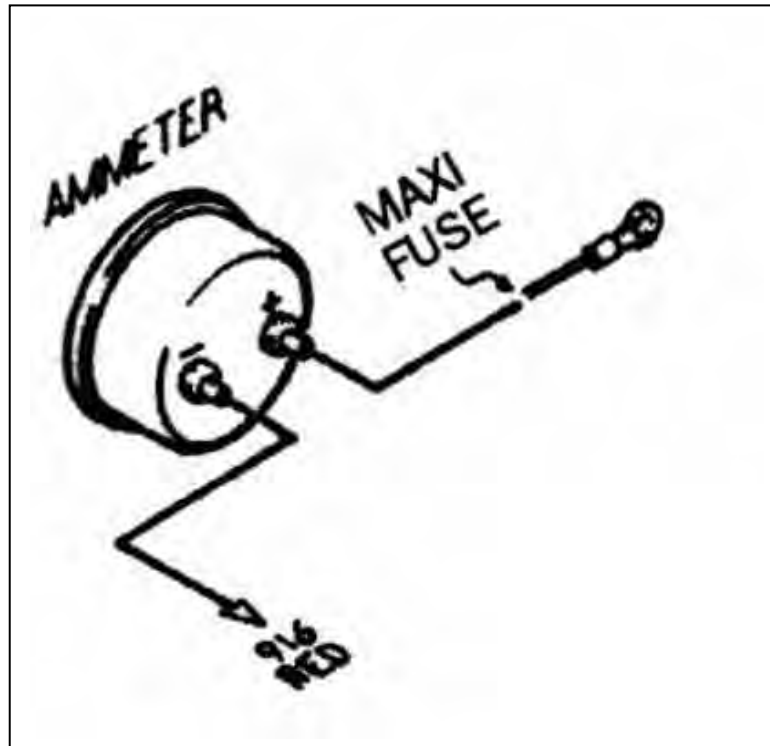

Figure 7.5 Ammeter and Maxi-Fuse
7.5 CONNECTING AN AMMETER AND MAXI FUSE (SEE FIGURE 7.5 AND 7.6)
Note: *Hazard Lights are not stock, this wire has been installed so that you may install them. (See Figure 7.5)*